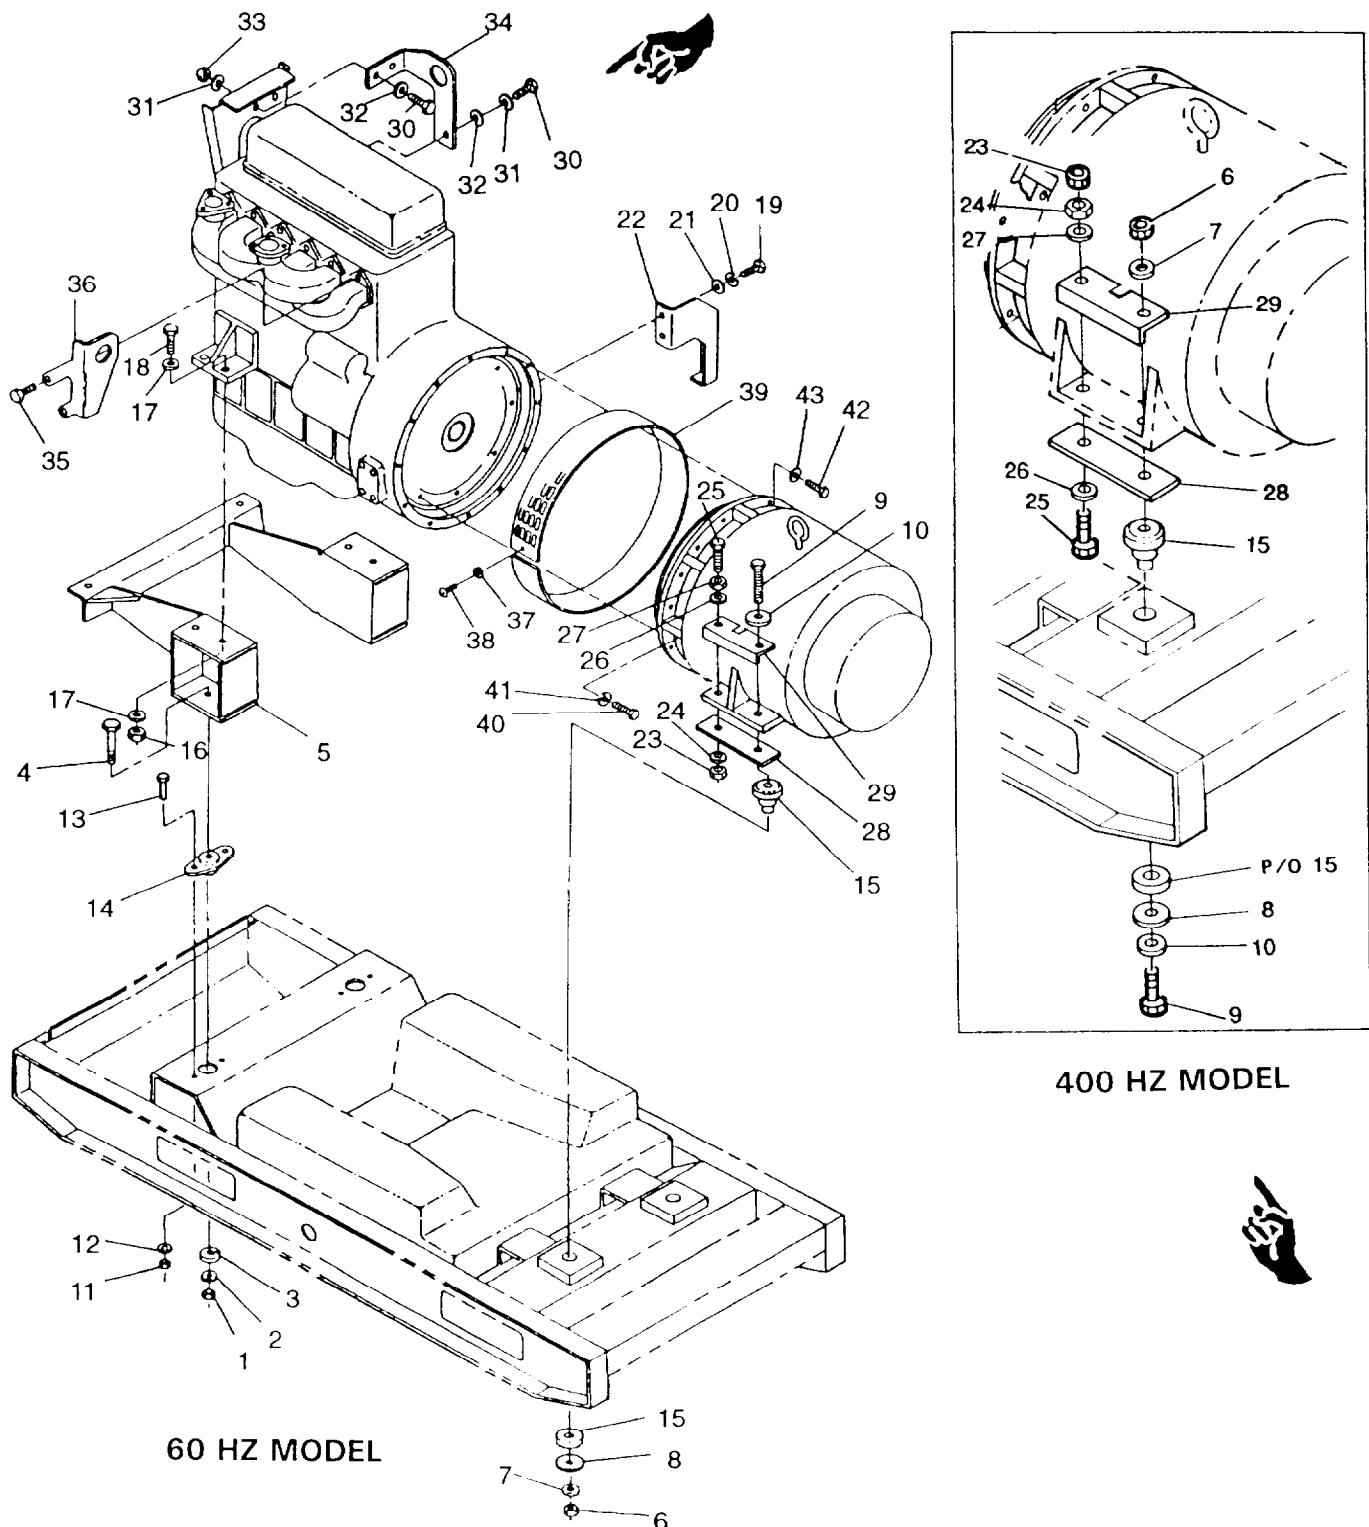

FIGURE 3-1. Engine and Generator Assembly
- j. Remove nuts (1, FIGURE 3-1) washers (2), snubbing washers (3), and bolts (4) from engine mounts (5).
- l. Remove nuts (6), washers (7), snubbing washers (8), bolts (9), and Belleville washers (10) from generator mounts.
- p. Remove engine shock mounts (14) from skid base by removing nuts (11), washers (12), and bolts (13).
- q. Remove shock mounts (15) from generator mounting points on skid base.
- r. Remove engine support bracket (5) by removing nuts (16), washers (17), and bolts (18).
- s. Remove engine support brackets (22) by removing bolts (19), lockwashers (20), and washers (21).
- t. Remove generator mount angles (29), plates (28), nuts (23) and (27), washers (24) and (26), and bolts (25) from generator.
- u. Remove bolts (30), lockwashers (31), washers (32), nuts (33), and bracket (34) from engine.
- v. Remove bolts (35) and bracket (36) from engine.
- a. Install bracket (36, FIGURE 3-1) on engine with bolts (35).
- b. Install bracket (34) on engine with bolts (30), lockwashers (31), washers (32), and nuts (33).
- c. Install engine shock mounts (14) on skid base with bolts (13), washers (12), and nuts (11).
- d. Position generator shock mounts (15) in skid base.
- e. Install engine support bracket (5) on engine with bolts (18), washers (17), and nuts (16). Torque nuts (16) to 31 ft-lbs (42 Nm).
- f. Install engine support brackets (22) on engine with bolts (19), lockwashers (20), and washers (21).
- g. Install generator mount angles (29) and plate: (28) on generator with bolts (25), washers (24) and (26), and nuts (23) and (27).
- au. Remove bolts (5), washers (7), and lockwashers (6) securing load output terminal board assembly (8) to supports (9) and (10). Pull load output terminal board assembly out through access door.
- av. Remove assembled nuts (11), bolts (12), and support (10) from right side panel.
- aw. Loosen nuts (23 and 27, FIGURE 3-1), turn bolts (25) to contact skid base and tighten nuts (23) and (27).
- ax. Remove screws (38), washers (37), and screen/over (39) from generator case.
- az. Remove bolts (40) and lockwashers (41) securing generator drive disc to engine flywheel.